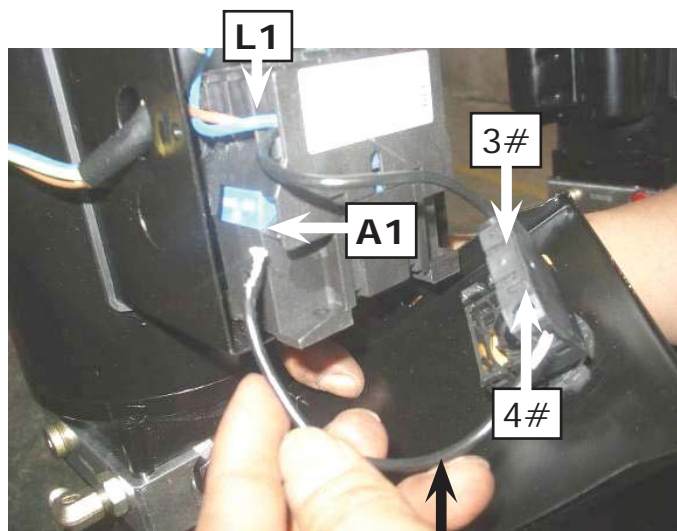
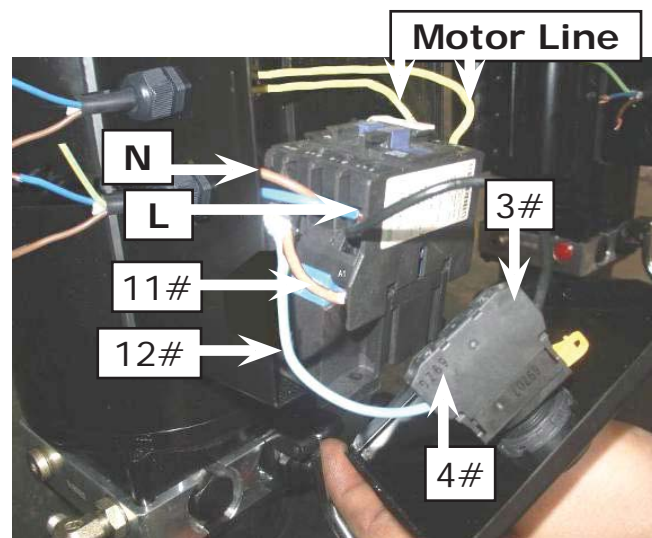

Fig. 35
Fig. 36
4. Connecting the Limit Switch: Remove the line of Connecting Terminal **4#** on the up button and **A1** on the AC contactor (**See Fig. 35**). Then connect wire **12#** on the Limit Switch with Terminal **4#** on the control button and connect wire **11#** with terminals **A1** on the AC contactor (**See Fig. 36**).